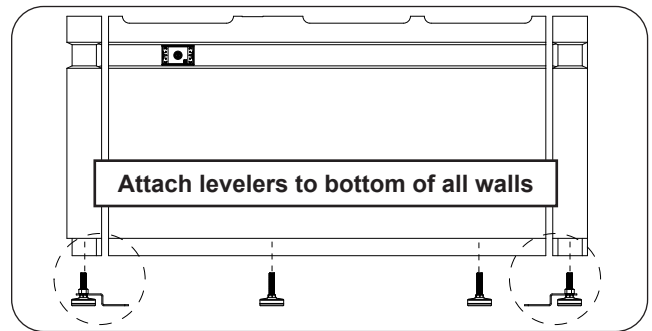

Fig. 7-1 Attach levelers
2. Carefully lay down all pieces that make up the island base and attach the levelers (see Fig. 7-1).